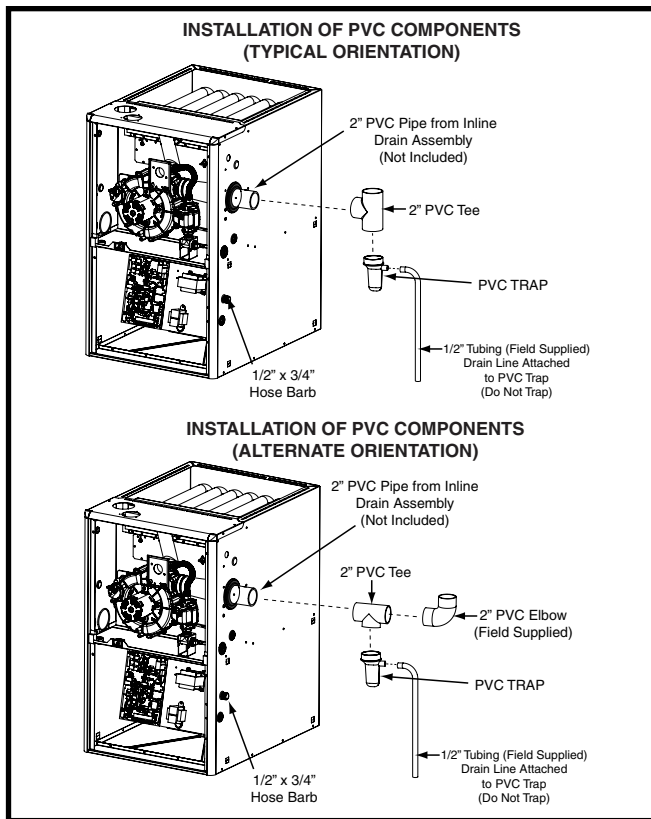

Figure 15. PVC Components
- The 2" PVC components shown in Figure 15 are not provided in the extra parts bag. However the PVC Trap (P/N 664659) can be purchased thru your local distributor.
The 2" PVC tee, reducer, PVC Trap and 1/2" X 1/2" hose barb are used when the inducer is rotated to vent out thru the left or right side of the furnace cabinet. See Figure 15.
1. Install the PVC Tee vertically on the 2" vent pipe that is extending out the side of the cabinet. Permanently bond them together using appropriate primer and cement. Refer to the typical orientation shown in Figure 15.
1. Install the 2" PVC Tee horizontally on the 2" vent pipe that is extending out the side of the cabinet. Permanently bond them together using appropriate primer and cement. Refer to the alternate orientation shown in Figure 15.